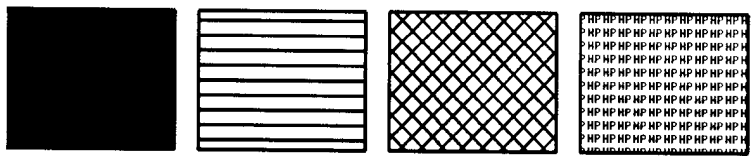

Figure 22-3 Fill Types
Using the Fill Type (FT) command adds detail to your drawings and increases their visual effectiveness. The fill type affects the RA (Fill Rectangle Absolute), RR (Fill Rectangle Relative), WG (Fill Wedge), FP (Fill Polygon) commands, and CF (Character Fill) commands. PCL 5 printers support **solid**, **parallel line**, (hatching), **HP-GL/2 cross-hatch**, **raster fill** (shading is a special type of raster fill), and **PCL cross hatch** and **PCL user-defined** fills. Figure 22-3 shows the first four types. The **user-defined** fill type shown on the right can be printed using the HP-GL/2 RF (raster fill) command. User-defined fills can also be selected with the FT (Fill Type) command after having been created in PCL context (see “User-Defined Raster Graphics” in Chapter 13).